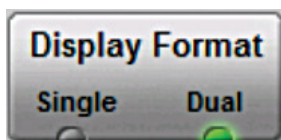

Figure 14. Dual display indicator lit
1. If desired, both measurements covered in this application note may be measured and displayed simultaneously. To measure and display both simultaneously, based on the calibration previously made in step 5, simply press the "Display Format"  sub menu key until "Dual" is lit with the green indicator (**Figure 14**).